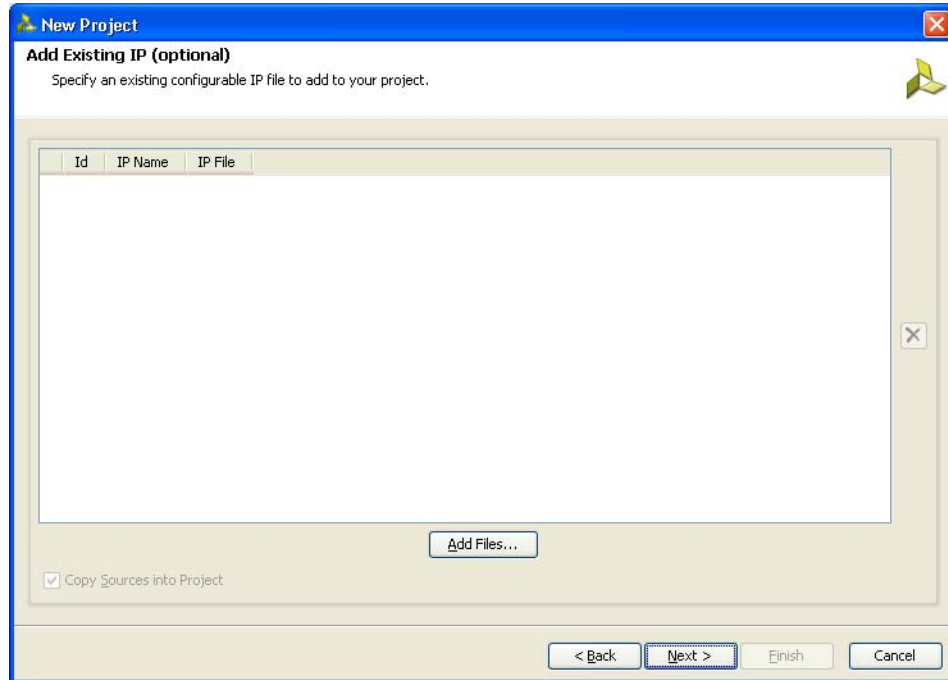

Figure 1-6: Add Existing IP (Optional)
- Click **Next** to open the **Add Existing IP (Optional)** page (Figure 1-6). If the IP is already created, the XCI file generated by the IP can be added to the project and the previous created IP files are automatically added to the project. If the IP was not created earlier, proceed to the next page.